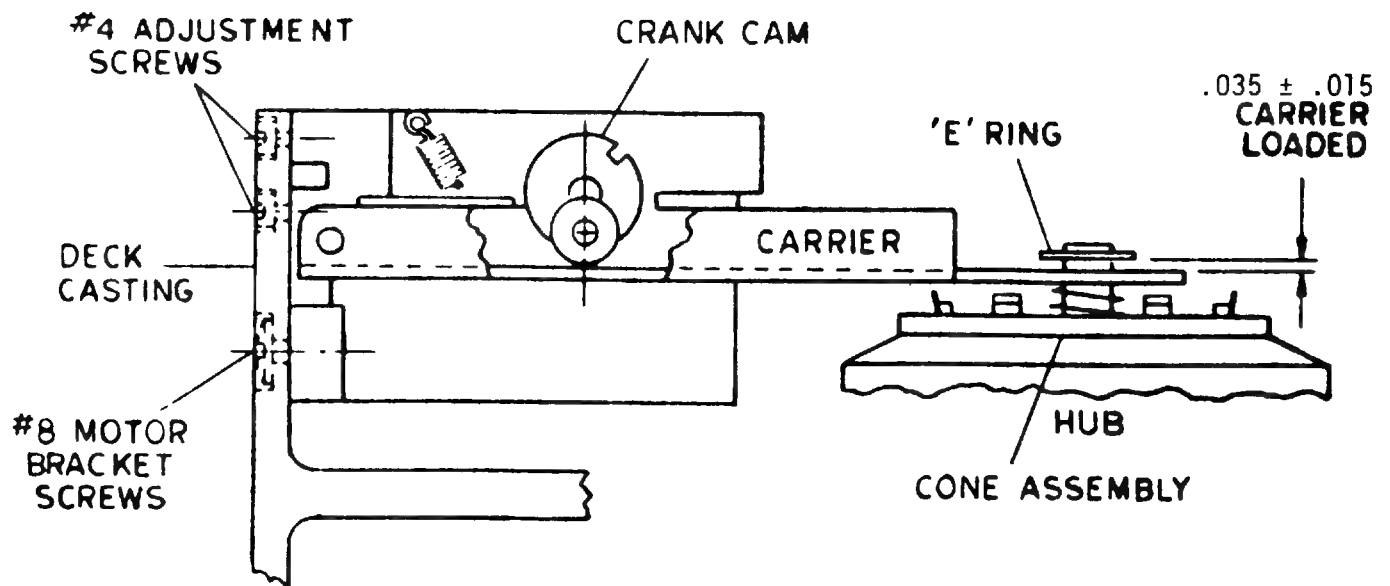

Figure 2-11. Crank Cam Alignment Check
- c. Observe the gap between the E ring which holds the cone assembly to the carrier and the corresponding carrier surface. (See Figure 2-11.)
Maintenance checks and adjustment procedures can be accomplished on-line using the controller or off-line using the Model 499B Diskette Drive Exerciser. (See Figure 2-11.)